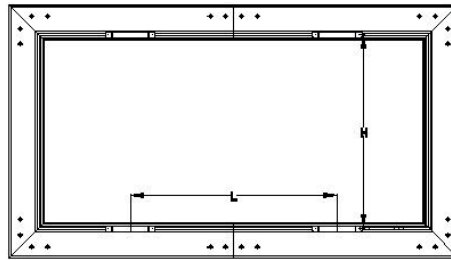

Fig 14.
1. Mount two wall brackets (I) per horizontal frame part (A). Make sure that the brackets are evenly distributed along the length (as shown in Fig. 14) and are opposite each other.